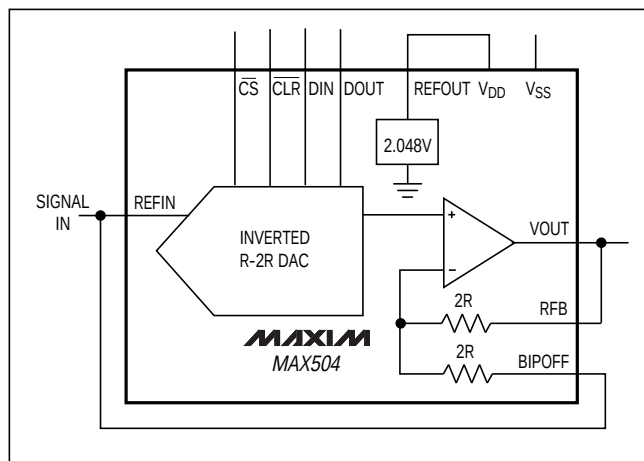

Figure 9. MAX504 Connected as Four-Quadrant Multiplier. The unused REFOUT is connected to V_{DD}.
The MAX504 can be used as a four-quadrant multiplier by connecting BIPOFF to REFIN and RFB to VOUT, and using (1) an offset binary digital code, (2) bipolar power supplies, and (3) a bipolar analog input at REFIN within the range $V_{SS} + 2V$ to $V_{DD} - 2V$, as shown in Figure 9.